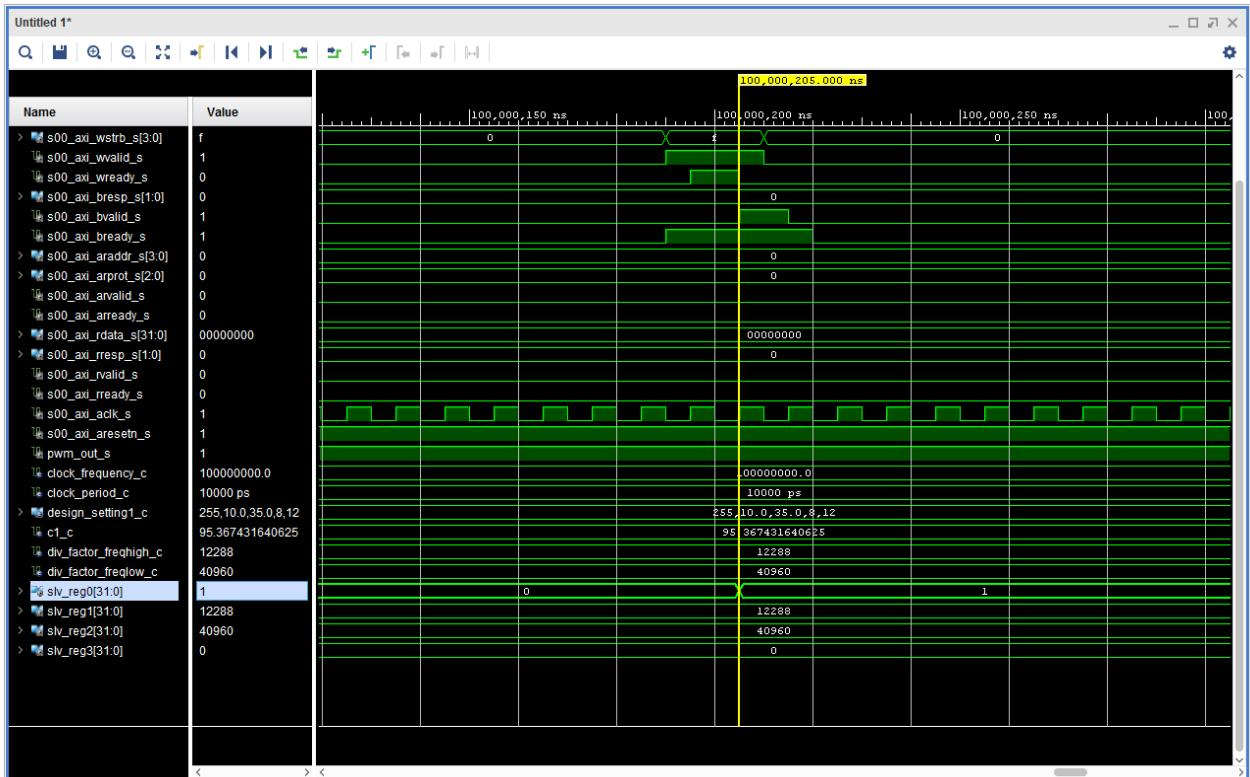

Figure 12.95: Simulation Results - changing the value of sw0 register
9. Zoom fit and then zoom in few times around 100 ms and you will see the "sw0" register change, see Figure 12.95.